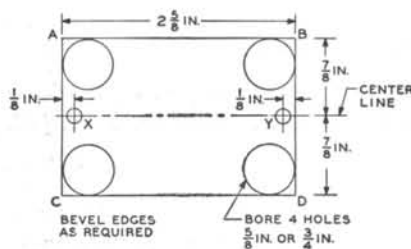

FIG. 17—METHOD OF PREPARING RECESS HOLE FOR 391A JACK
10.05 The 391A jack is installed in baseboard or wall panel, as shown in Fig. 17, and as follows:
3. Measure from center of holes and draw rectangle as shown in Fig. 17.